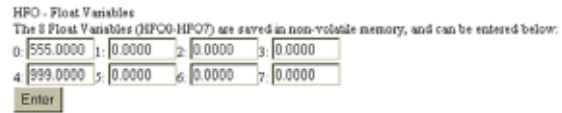

FIG. 182: MAPPING DISPLAY WITH VALUE “999.0000” RECEIVED FROM THE HARDY MODBUS-LINK CLIENT
Step 15. Go to the Mapping Display of your HI 3000 module. The value “999.0000” appears in the HFO - Float Variables, word 4. (See Fig. 182)